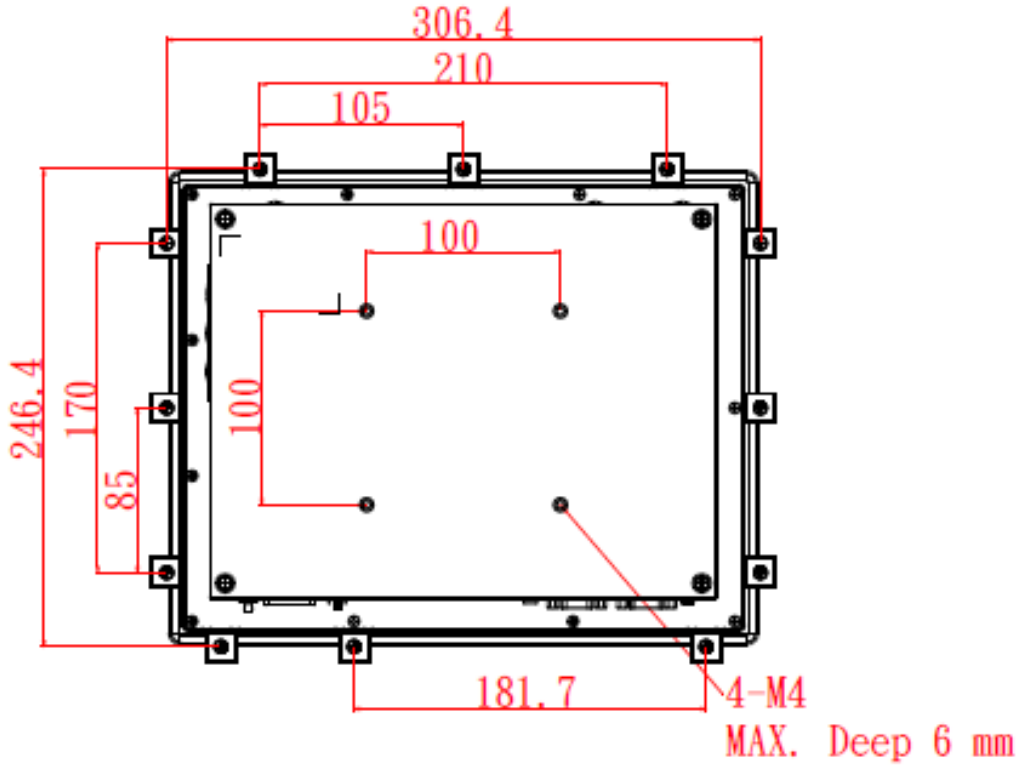

Figure 2-5: Panel mount dimensions (back chassis)
Step 3 Locate the screwing holes and the positions of the hook brackets on the back side of the panel PC, as shown in the Figure 2-5.